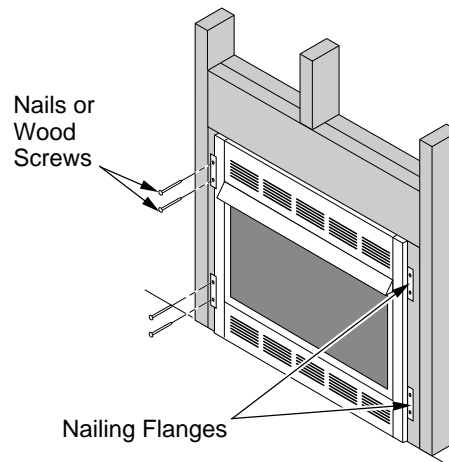

Figure 19 - Attaching Fireplace to Wall Studs
14. Attach fireplace to wall studs using nails or wood screws through holes in nailing flange (see Figure 19).